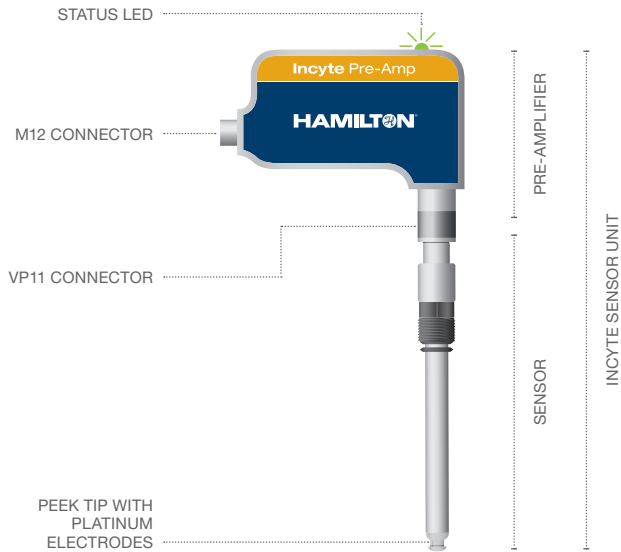

Figure 1: Incyte Sensor Unit assembled.
An Incyte Sensor Unit consists of a Pre-amplifier and a Sensor (Figure 1). The Pre-amplifier and the Sensor have been factory calibrated as a pair. They are connected together via a VP11 connector. A status LED, indicating whether the sensor is ready for measurement is available on top of the Incyte pre-amplifier. The Incyte Sensor Unit is available with a shaft diameter of 12 mm (DN12) or 25 mm (DN25). The measurement tip is made of PEEK and contains four platinum electrodes for permittivity measurement. All wetted parts are USP Class VI certified.
7. Switch on the Arc View Controller (the Status LED on the main screen turns green and an automated firmware update starts. The status LED of the Incyte Pre-amplifier (Figure 1) flashes green during this procedure).
1. Verify that the Status Indicator on the Run Menu of the Arc View Controller and the status LED of the Pre-amplifier (Figure 1) are green.